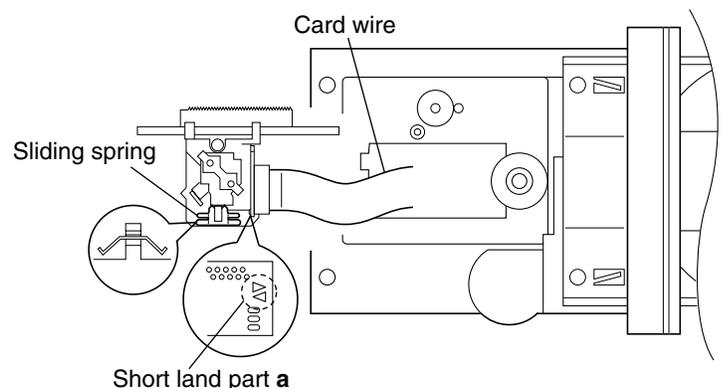

Fig.11
8. Turn the CD pickup unit upside down and apply solder to the short land part **a**. (See Fig.11.)
9. Disconnect the card wire from the CD pickup unit and replace the unit. (See Fig.11.)
[Caution] · Be sure to solder the short land part **a** on the CD pickup unit before disconnecting the card wire from the CD pickup unit (see Fig. 11).
[Note] · Removing the CD pickup unit involves the removal of the sliding spring. In the assembly, be sure to attach the spring in the correct orientation before attaching the CD pickup unit (see Fig. 11).